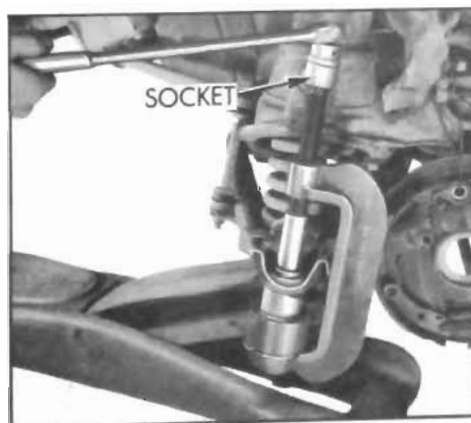

Figure 7-16—Removing Lower Ball Joint
7. Tighten Detail J-9519-8 with a socket and handle as shown in Figure 7-16 until ball joint is forced out of the lower control arm. Warning: Ball joint may pop out suddenly!